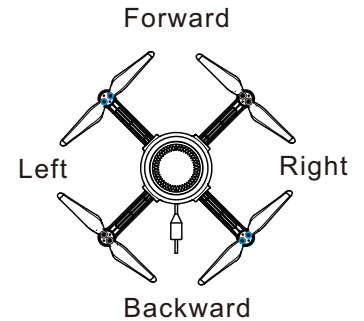
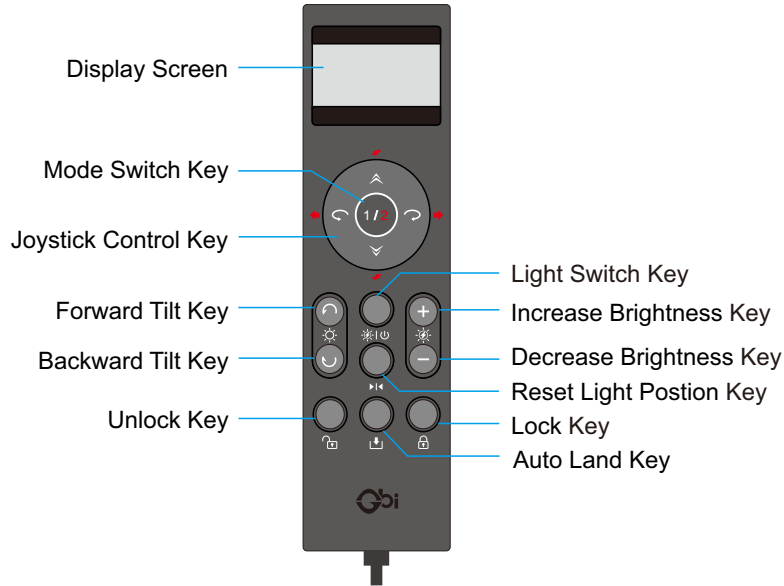

Figure 5-2: Illustration of drone orientation
Figure 6:The Diagram Of Remote Controller Button Functions
- ① The orientation of the drone itself (as shown in Figure 5-2): The tail side with the cable plug of the drone is the tail side, and the nose side is the other side.
- ② When flying at night, you can determine the orientation of the drone by the colors of the lights on the underside of the wings. The side with the red lights illuminated is the front of the aircraft, while the side with the blue lights illuminated is the rear.
a.The Diagram Of Remote Controller Button Functions (Refer To Figure 6)
c. The Remote Controller (Refer To Page 9,Figure 6)